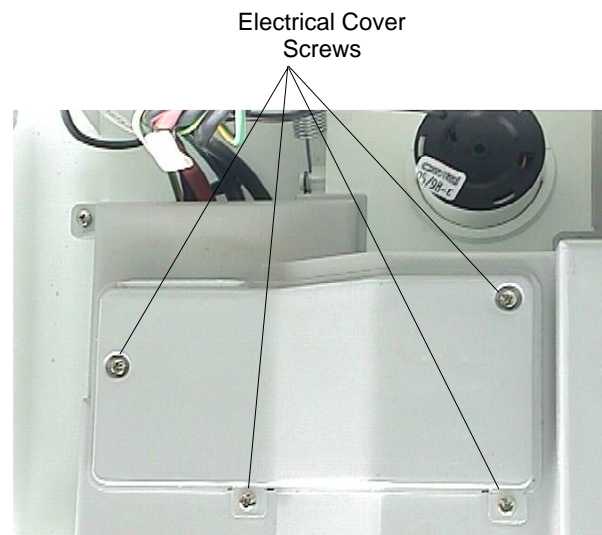

Fig. 19
Remove electrical cover by releasing four securing screws. Fig.19.
- 5.7.7 External controls may be wired from terminals TA to TA after removing the factory fitted link (see fig. 19 & pages 49-52 for further details). If a neutral is needed use the terminal marked N on the terminal strip.